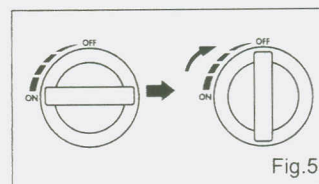

Fig.5
1. To turn off, return the knob to OFF position. (Fig. 5)